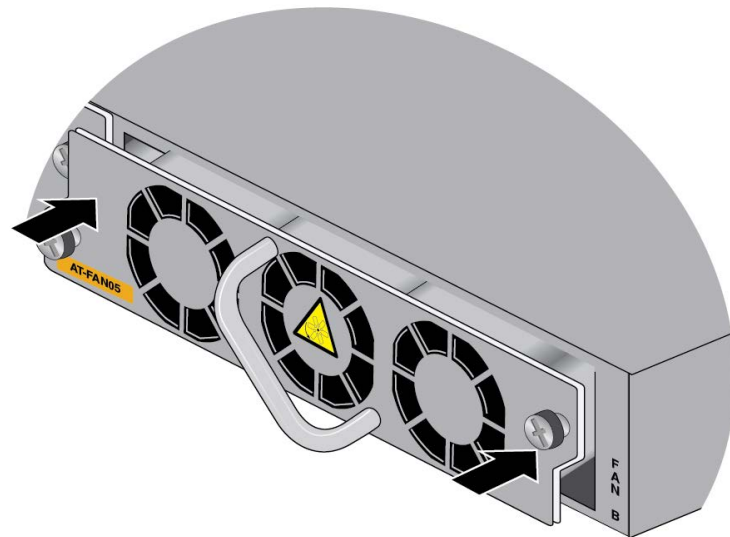

Figure 159. Seating the FAN05 Module on the Internal Connector
3. When you feel the module make contact with the internal connector, gently press on both sides to seat the module on the connector. Refer to Figure 159.